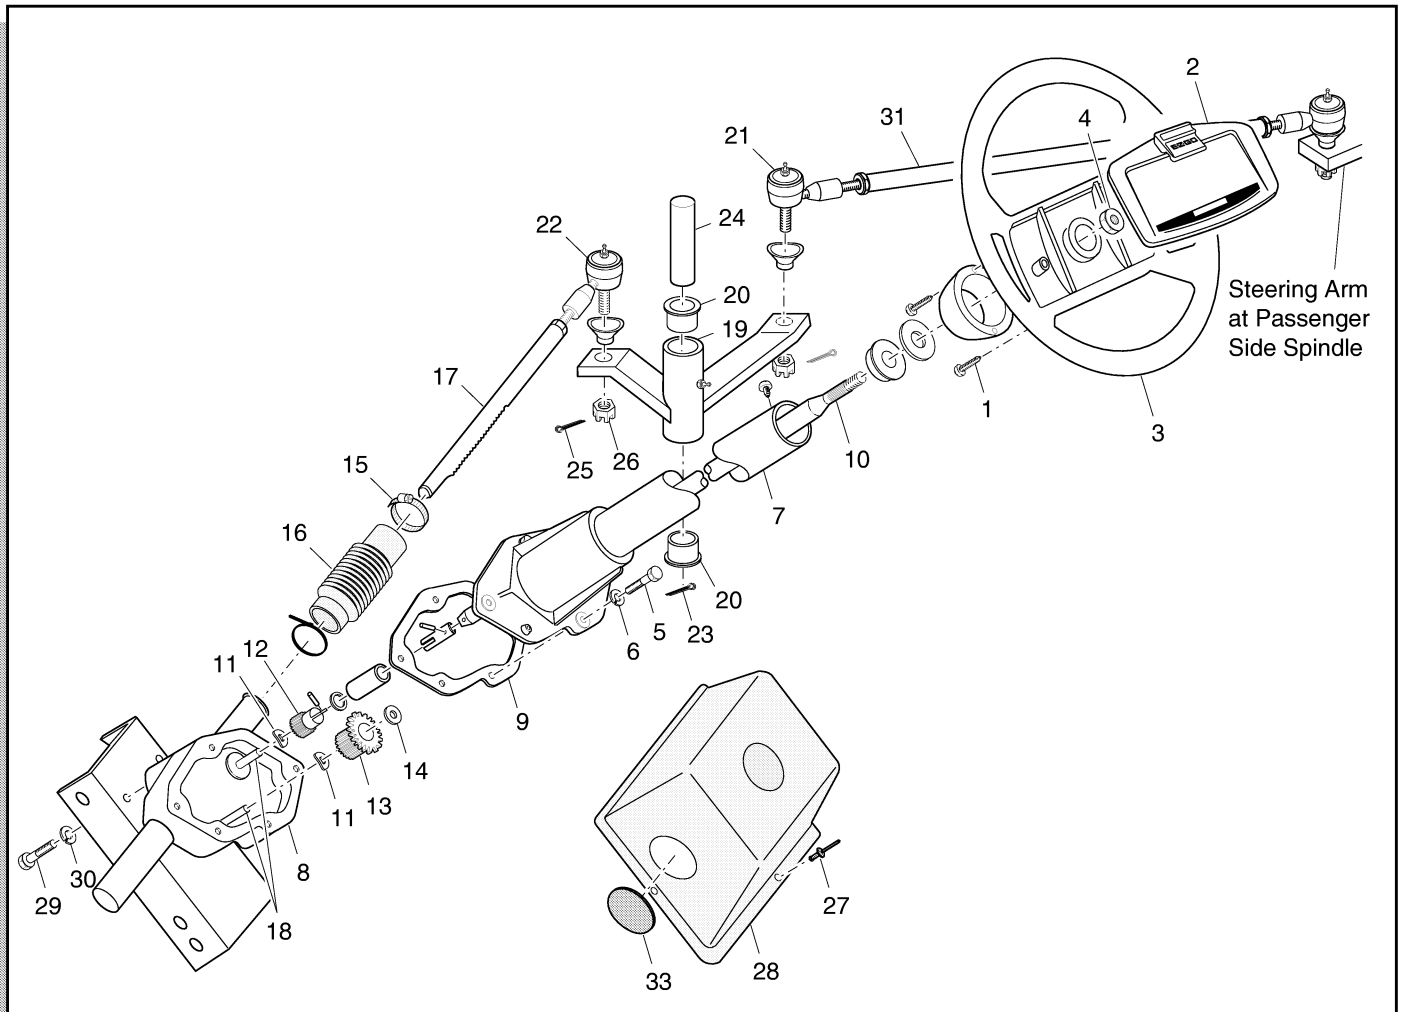

Fig. 7 Steering Components
Remove the steering wheel as previously described. Remove the four bolts (5) and washers (6) that secure the steering column (7) to the gear housing (8) (Ref Fig. 7 on page E-5). Lift the steering column and gasket (9) away from the gear housing and slide them over the steering shaft (10). The steering shaft (10) and pinion gear (12) can be pulled from the gear pin (18).
Remove steering column from gear housing as previously described. When removing gears, **make note** of the position of the spring washers (11), one under the pinion (12) and one under the reduction gear (13) (Ref Fig. 7 on page E-5). Be sure the spring washers are properly positioned when reassembling the gears. The
If the idler assembly (19) is worn or has excessive play, the flanged bearings (20) must be replaced (Ref Fig. 7 on page E-5).
To remove the idler (19), disconnect the tie rod end (21) at the bottom of the idler assembly and the rack end ball joint (22) at the top of the idler assembly (Ref Fig. 7 on